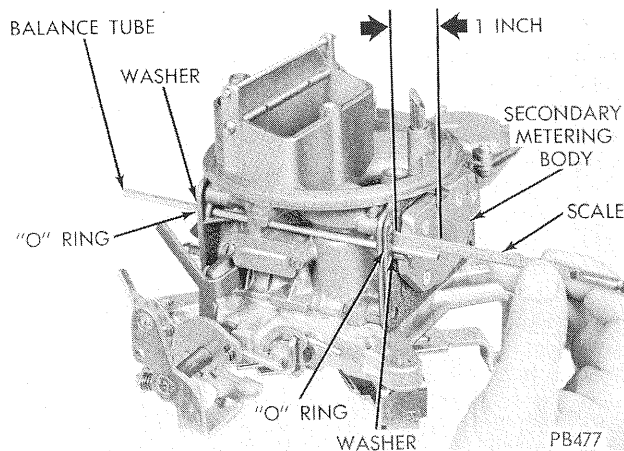

FIG. 40 Adjusting Balance Tube Model 4160
1. Install balance tube into main body. **Install new "O" rings and washers at each end. Be sure "O" rings and washers are seated in recesses on both primary and secondary side (Figure 40); otherwise fuel leakage will occur.**
3. Position balance tube so that only 1" extends beyond the secondary metering body (Figure 40).